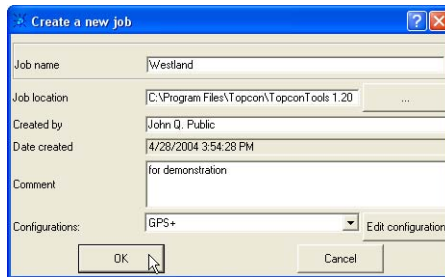

Figure 2-3. Create A New Job
2. Enter the following information (Figure 2-3):